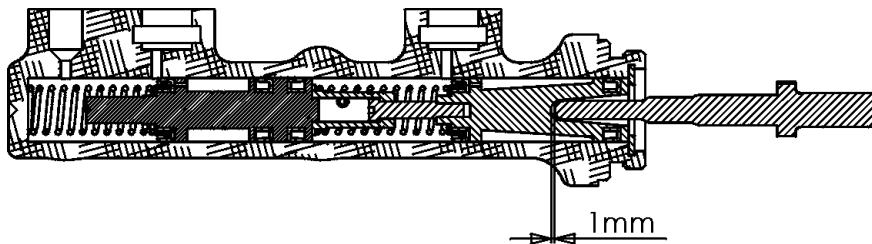

Fig.3
- Check the Pushrod that goes into the master cylinder from the pedal. It should have a 1/16 inch (1mm) of play before you can feel the rod make contact with the plunger (see Fig.3).
- Das Spiel sollte 1 mm betragen. Siehe Fig.3